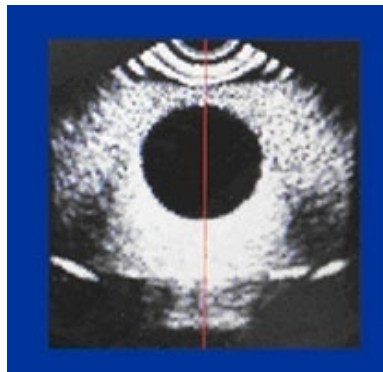

Figure A-3 Correct
A. 2 There might have 3 kinds of images on the screen in the pre-scanning. The probe shall be calibrated if the images are as fig. A-2 and fig. A-3.
A. 3.2 Back to pre-scan mode to check the red line and image's position, if it's still incorrect, please back to adjust until it is correct (as Fig. A-3) or else, the practice result will with error.
A. 4.2 Back to pre-scan mode to check the red line and image's position, if it still incorrect, please back to adjust until it is correct (as Fig. A-3) or else, the practice result will with error.